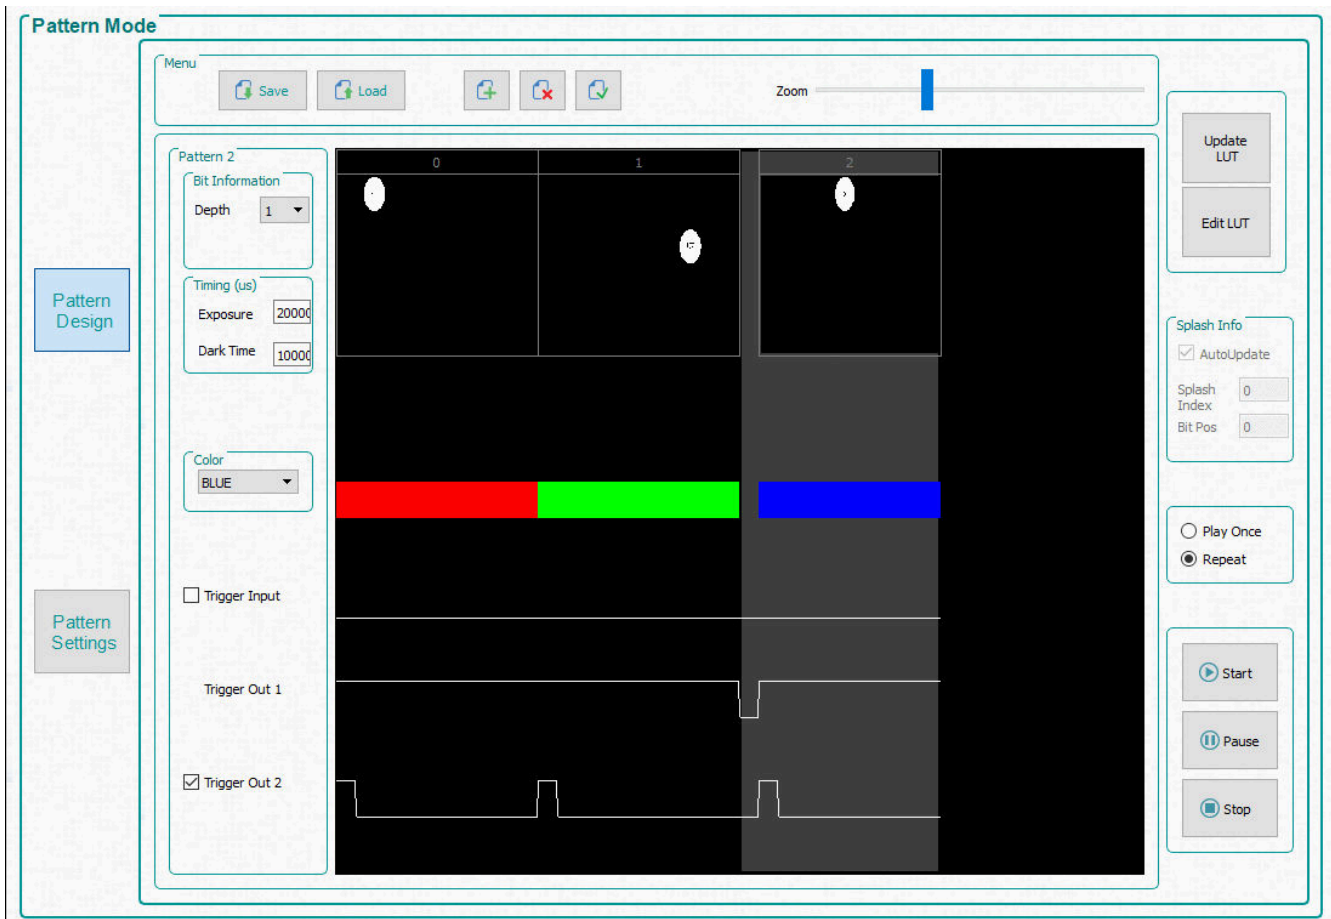

Figure 3-2. Simple Three Pattern Sequence
For the next three steps a selected pattern is indicated by a lighter gray selection area. See Figure 3-2 which shows the third pattern (pattern 2) selected.
5. Select the third pattern and choose a bit depth of 1. Set exposure to 200000 μ s, dark time to 100000 μ s, and select **Blue** for the color. Figure 3-2 shows the pattern sequence.